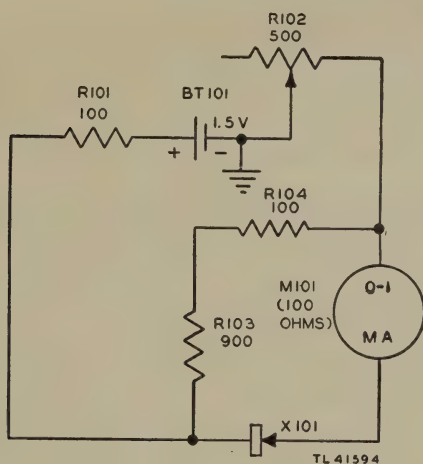

Figure 19. Circuit for back current measurements, schematic diagram.
f. BACK CURRENT Position (fig. 19). When the selector switch is rotated to this position (position 5), the circuit selected is the same as in *e* above except that the positions of the crystal rectifier and resistor R103 are reversed in the parallel circuit. The crystal rectifier now is connected in series with the meter and, with 1 volt impressed across this circuit, the meter pointer will indicate the current flowing through the crystal rectifier in the backward direction. The magnitude of this current, which is read on the MA scale of the meter, will be inversely proportional to the backward resistance of the crystal rectifier.